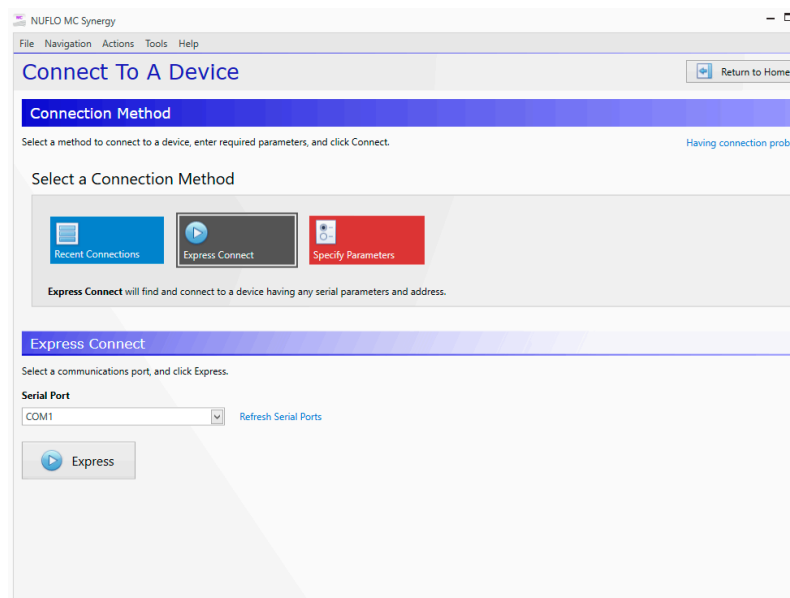

Figure 2.24—Software connection screen
4. Under Select a Connection Method, click EXPRESS CONNECT (Figure 2.24).